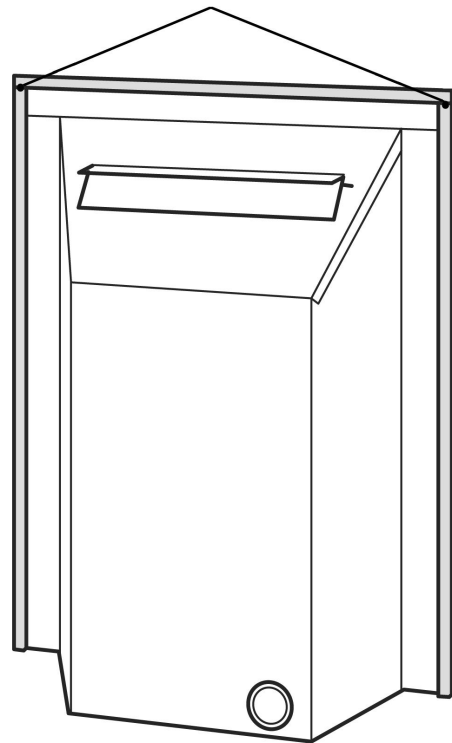

Figure 11. Fitting the foam seal
4. There is a length of self adhesive foam seal supplied with the fire. This will need to be fitted to the outer rear edges of the side and top flanges of the hotbox. Cut the foam seal to the required length. Be careful not to stretch the seal when measuring. Remove the protective backing from the foam seal and fit this to the rear of the top flange (See figure 11).